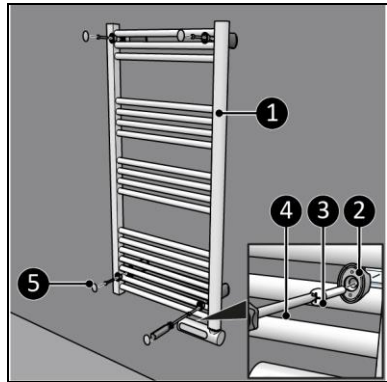

Figure 9
9. Place the device (Figure 9, pos. 1) over the wall brackets.
10. Screw and tighten the device with four large screws (Figure 9, pos. 3) to the wall bracket using a Phillips screwdriver (Figure 9, pos. 4).
11. Place the four sealing caps (Figure 9, pos. 5).